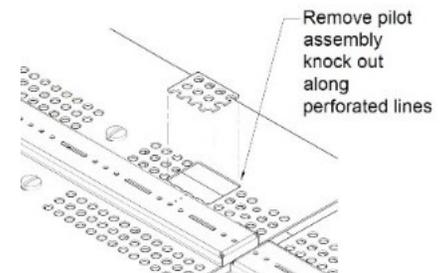

FIGURE 49
- 10) Before replacing the removed burner top from **step 4**, locate the perforated rectangular section in the pan. Gently remove this section along the perforations using a screwdriver or pliers. **(Figure 49)**